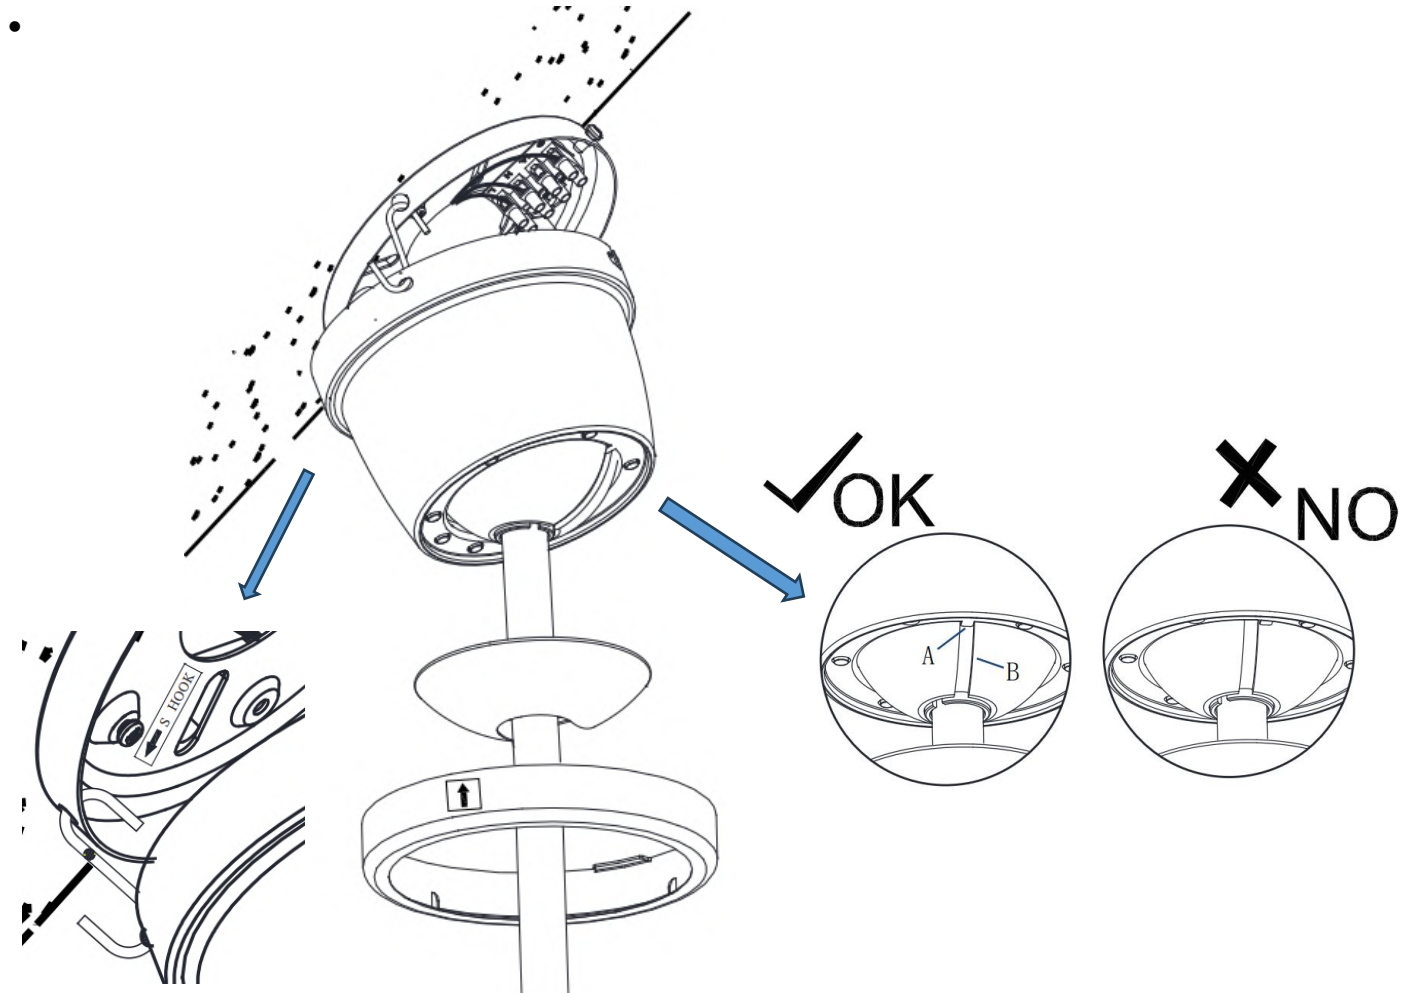

Fig. 6
Lift the fan assembly up to the mounting bracket. Hang the fan assembly onto the mounting bracket by the S-hook. (Fig.6)
Ensure the key slot (B) of the hanger ball is positioned on the key pin (A) of the angle canopy to prevent the fan from rotating when in operation. (Fig.6)